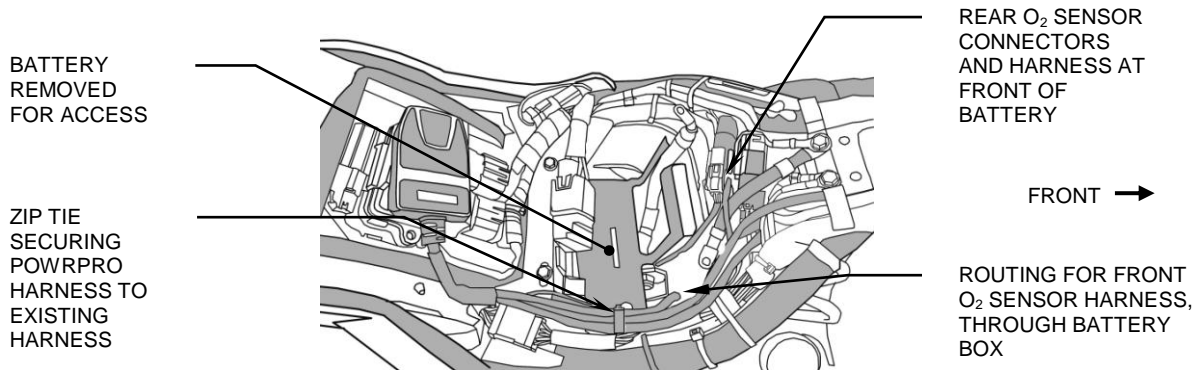

FIGURE 3
6. It is now time to install the oxygen (O₂) sensor harnesses. Disconnect ground lead first and then positive lead from battery. Remove the battery for access to the area underneath it and to aid in harness installation. Route the longer O₂ sensor harness down through the front of the battery box opening and out the front right side, Figure 3. Continue to route it to the right rear frame next to the swing arm mount and down past the rear of the transmission, then forward along the lower right frame rail to the voltage regulator.
8. Route the shorter Powrpro O₂ sensor harness to the front side of the battery box. Locate the stock rear O₂ sensor connectors and disconnect them, see Figure 3. Mate the corresponding male and female connectors with the Powrpro O₂ connectors. Secure this harness to an existing harness along the top of the right frame member using one of the supplied zip ties.